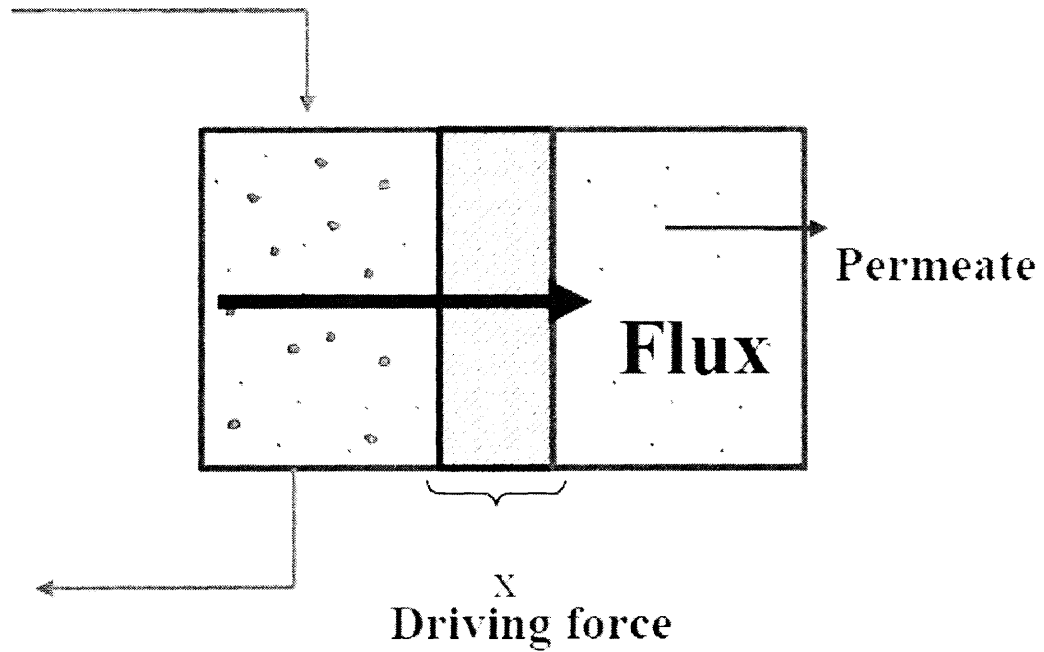

Figure 2.1 Mass Transfer Mechanisms
2. Please explain the mechanism and specify all the driven force from Fig.2.1 (13 Points)